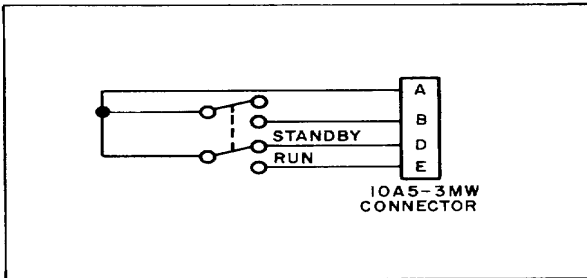

Figure 2-8. Remote Run Circuit Diagram
2-50. The 7702A Recorder chart drive START- STOP function and the MARKER function can be controlled from a remote location. The circuits required are shown in Figures 2-8 and 2-9.
2-52. Construct the circuit shown in Figure 2-8. The 10A5-3MW remote run connector and the 10A5-IFWA cable clamp are supplied as accessories with the system. Any length of four conductor cable may be used. The remote run circuit plugs into the J13 jack on the rear panel of the recorder.
- 1 Connect the switch circuit shown in Figure 2-8 to J13 on the rear panel of the recorder.